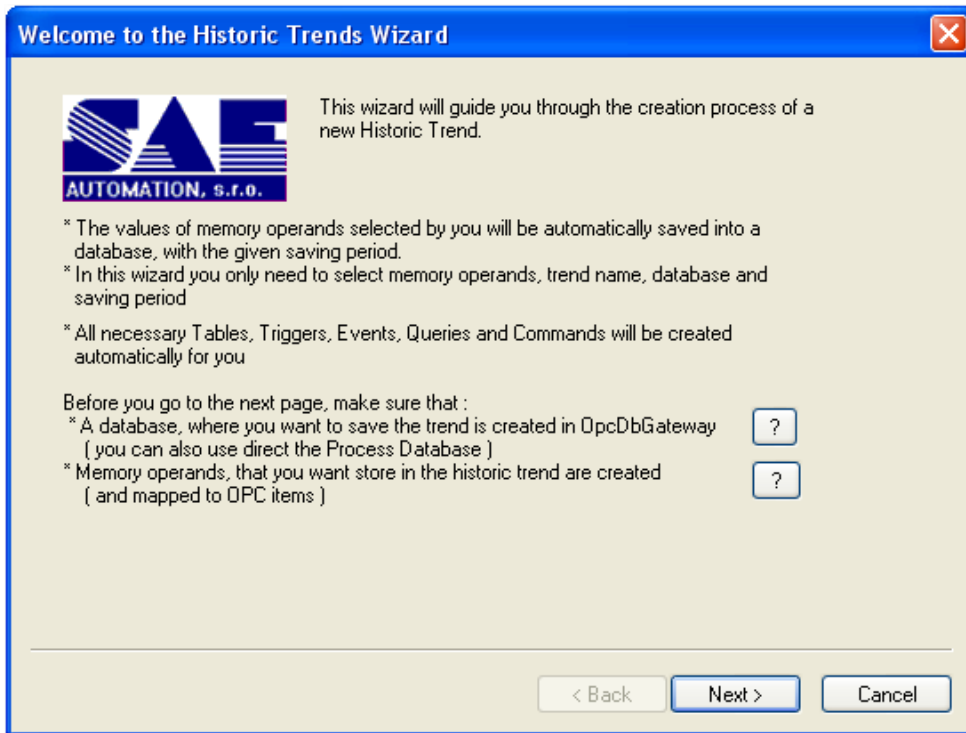

Figure 5: The first wizard page: Welcome to the Historic Trends Wizard.
2. In the first **Welcome...** wizard page, click on **Next** button (Please see Figure 5).